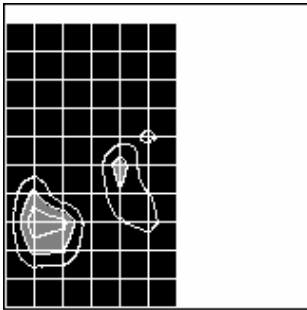
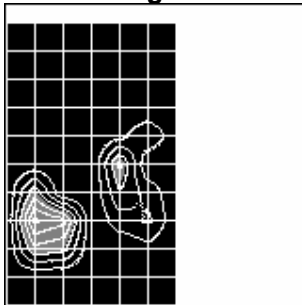

Fig. 72
Fig. 73
15. Press Up (Down) key to increase (reduce) the image size (Fig. 72). Press Right (Left) key to increase (reduce) the number of isolines on the image (Fig. 73).